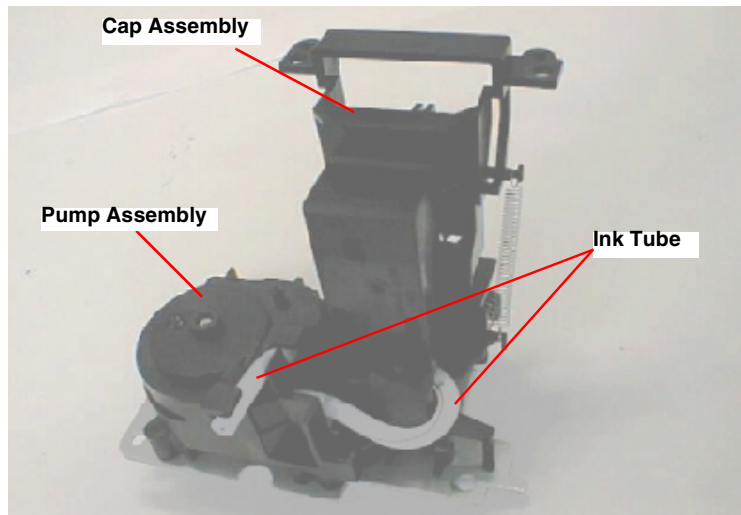

Figure 4-16. Placing the Ink Tube in the Ink System
- Check that the ink tube is connected securely to the connect portion of the Cap Assembly. Refer to the Figure 4-16.
- Check that the ink tube is placed correctly in the Ink System Assembly. Refer to Figure 4-16.
- After setting the three protrusions of Cap Assembly to the suitable fixing holes of the metal plate, secure the Ink System Assembly to the Middle Frame with the screws. See Figure 4-16.